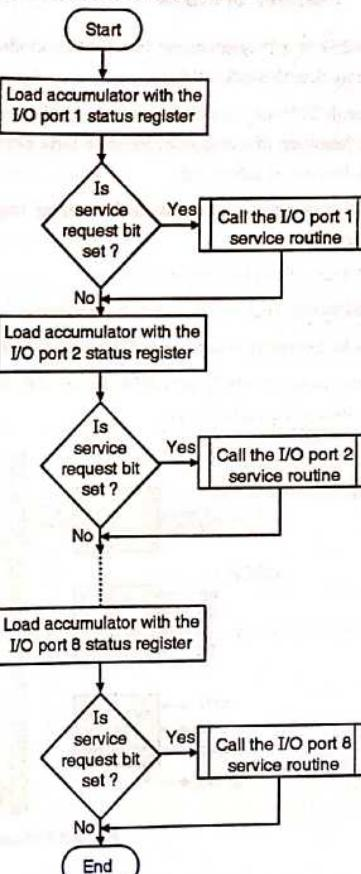

Fig 8.1.1 : Polling sequence
- On completion of the service to port 1, the polling routine will test port 2. The process is repeated till all the 8 ports are tested and all the I/O ports those are demanding service are processed. On completion of the polling routine, the microprocessor will resume with the execution of the program. Fig. 8.1.1 shows the sequence for polling routine.